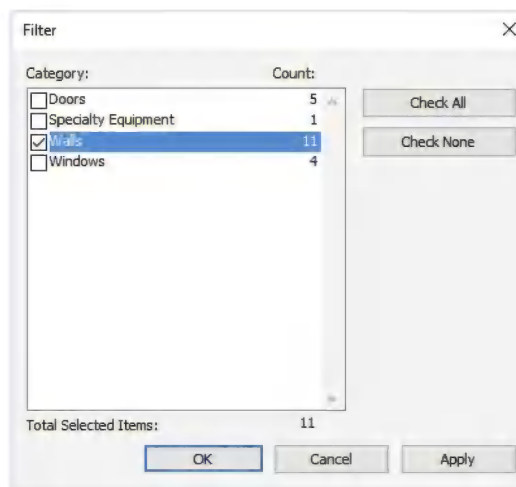

FIGURE 4-1.6 Filter dialog
17. **Uncheck** all the items listed except *Walls* (Figure 4-1.6).
The list varies depending on what elements are in the selection set (Figure 4-1.6).